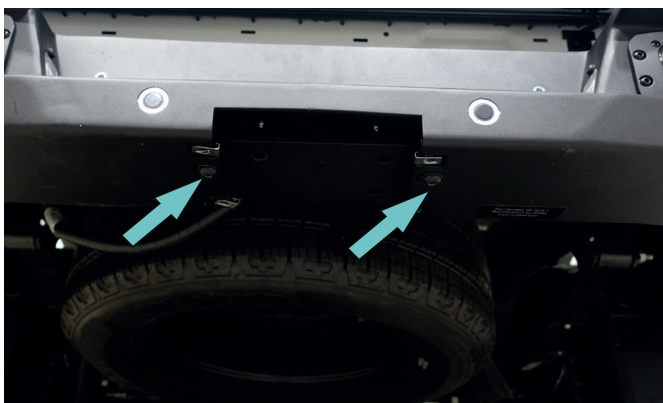

Fig. 33
32. Insert spacer (item L) between bumper body (item 1) and bracket (item 2). Fix bumper body (item 1) on bracket (item 2) using screws M10 and washers 10 (item B,F) (Fig 33).